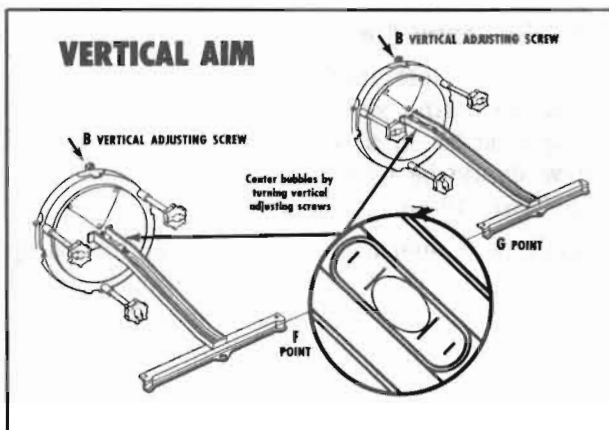

Figure 10-61—Vertical Aim
1. Center bubble by turning vertical adjusting screw B. (To insure proper location, back screw out until bubble is at end of vial. Then turn screw clockwise to center bubble.) See Figure 10-61.